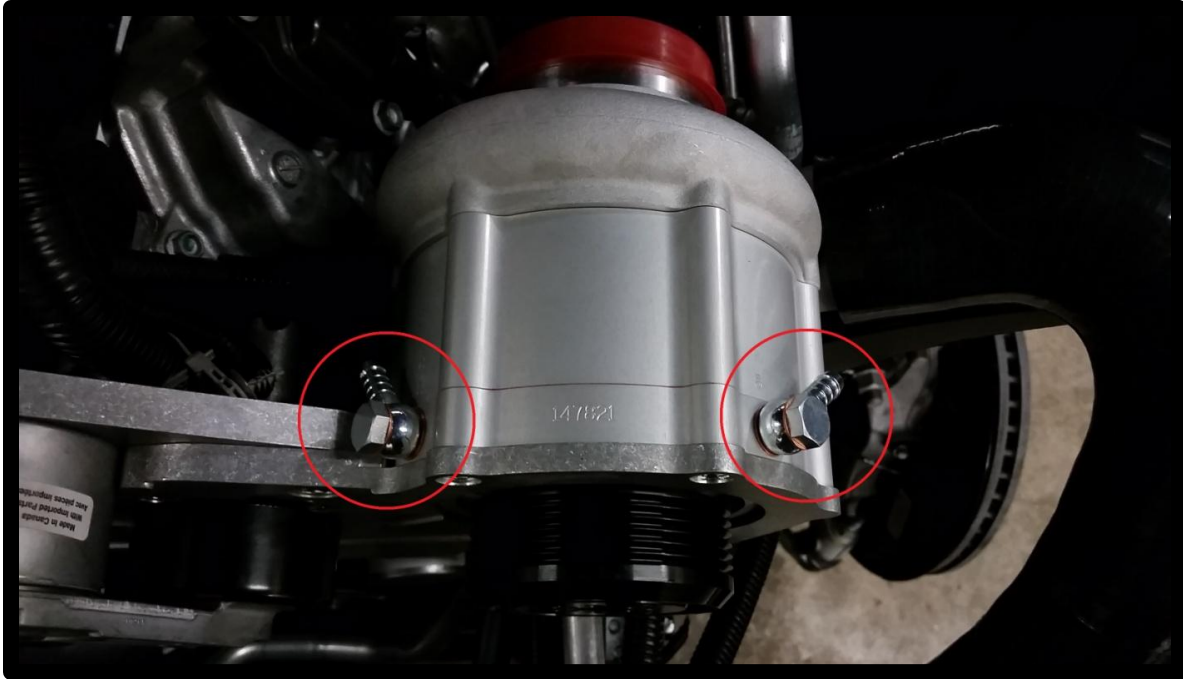

Figure 56: Installing Head Unit Barb Fittings
23. Install the banjo bolts and barb fittings onto the oil reservoir using the provided copper sealing washers. The exact direction of the fittings is not critical at this point and can be adjusted later. This is also a good time to install the banjo bolts and barb fittings onto the supercharger head unit again using the provided copper sealing washers. See Figure 56 below for approximate direction of the fittings.